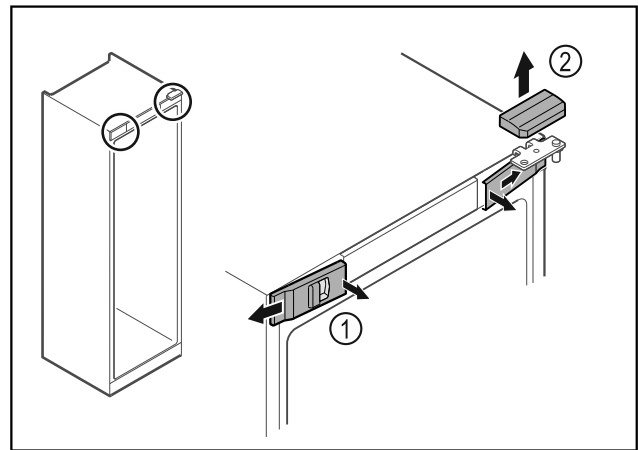

Fig. 17
- ▶ Unlatch the front covers Fig. 17 (1) on the inside and remove them sideways.
- ▶ Lift off the upper cover Fig. 17 (2).